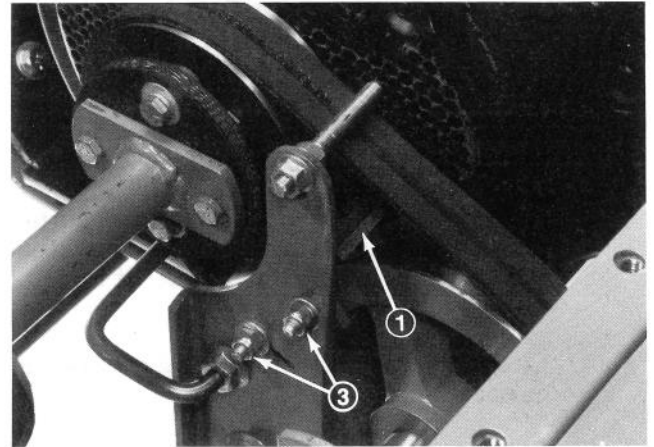

Figure 80
2. Inspect brake pad and lining assembly for excessive wear or damage (Fig. 80) and replace if necessary. Remove assembly by removing capscrews and flangenuts (Fig. 80).
3. Reinstall brake pad and lining onto PTO brake assembly with capscrews and flangenuts and mount PTO brake assembly (Fig. 80). Install all mounting components in same location from which they were removed.